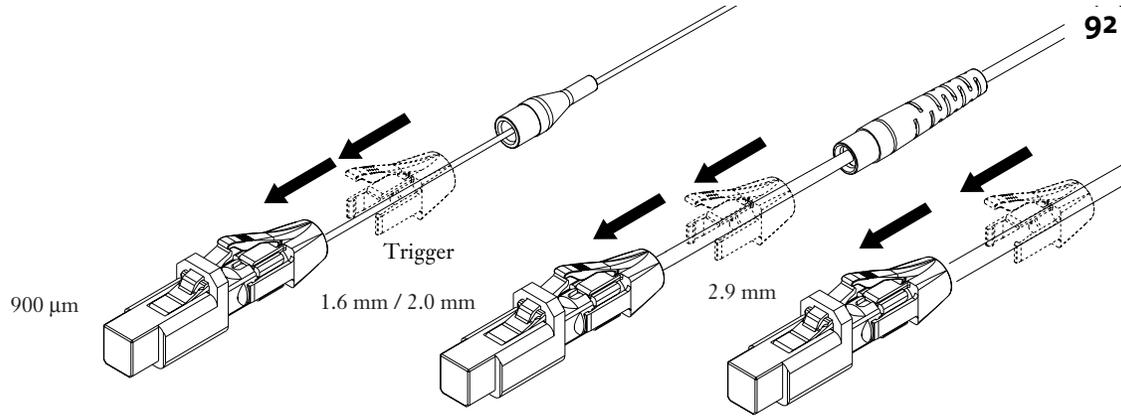

Figure 4-46
**4.8-14** Slide the trigger up to the back of the connector (over the crimp ring for jacketed connectors) and latch its arms into the windows on the housing (Figure 4-46).